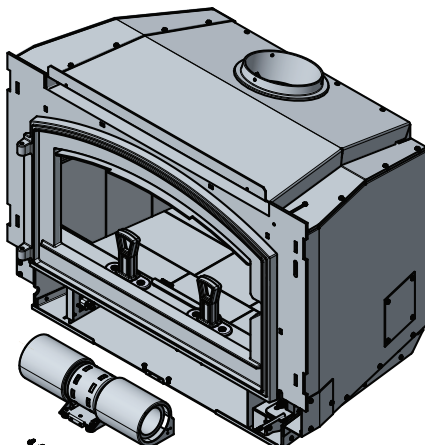

Figure 23.2
4. Disconnect the wires from the blower (**Figure 23.2**).